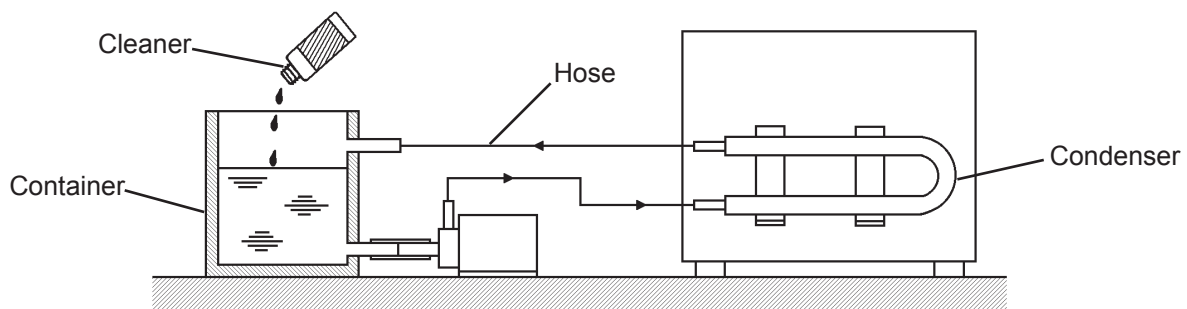

Fig. 8
- 6) Connect hoses as shown in Fig. 8 and secure them by hose bands.